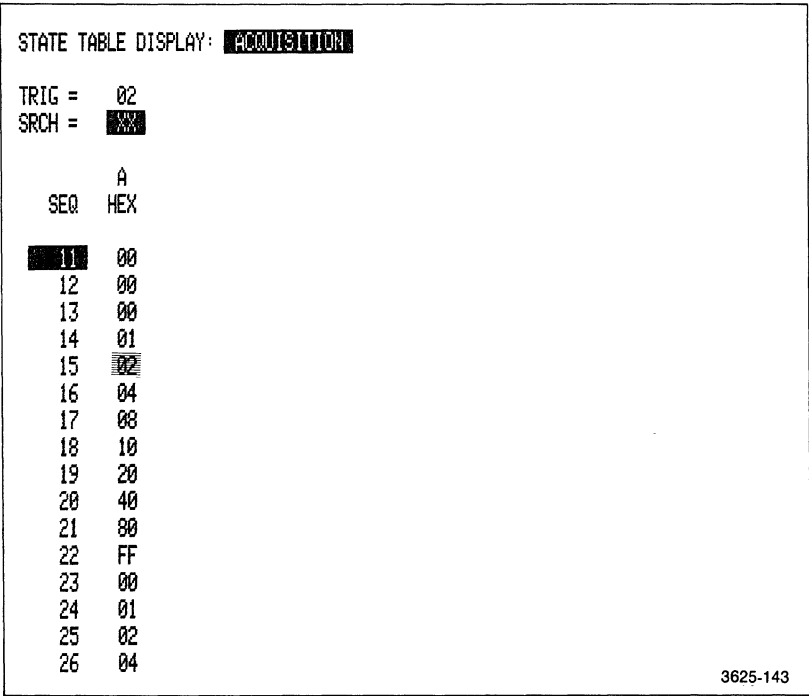

Figure 5-14. State Table display to verify followed by triggering.
- 3. Enter the State Table menu. The trigger should have occurred at sequence 15 and the data should match data shown in Figure 5-14.
3. Enter the State Table menu. The trigger should have occurred at sequence 15 and the data should match data shown in Figure 5-14.